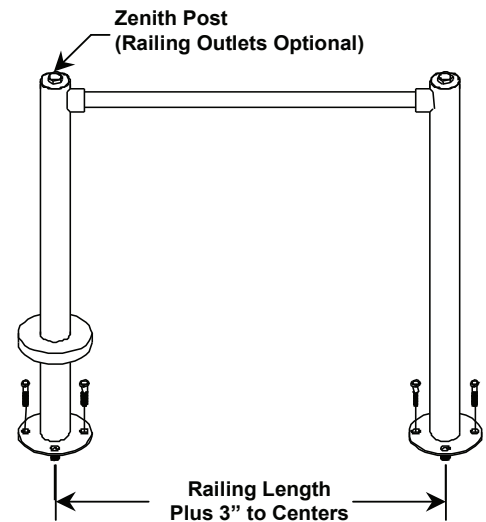

FIGURE 1 – Post & Rail Length from Center to Center
2. Mark the center of each post's location along the centerline. Use the length of rail ordered, plus 3" to compensate for the center to center dimension, to determine the correct distance between each Post (See **FIGURE 1**). It is important that this be done accurately!